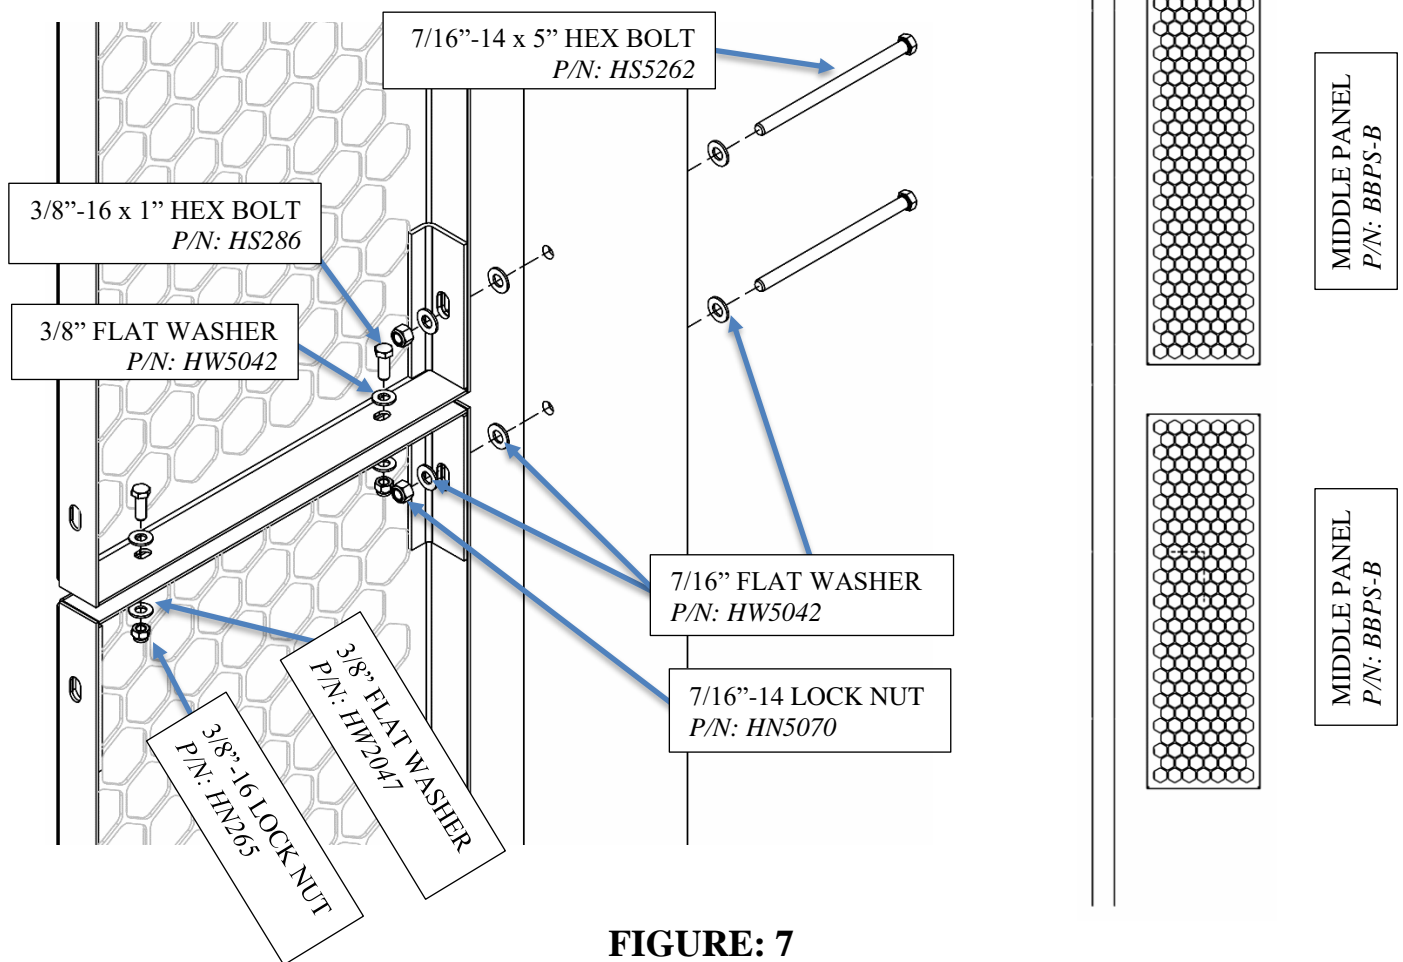

FIGURE: 7
2. Attach the side panels per figure 7 orient the panel so the front side is facing the field.